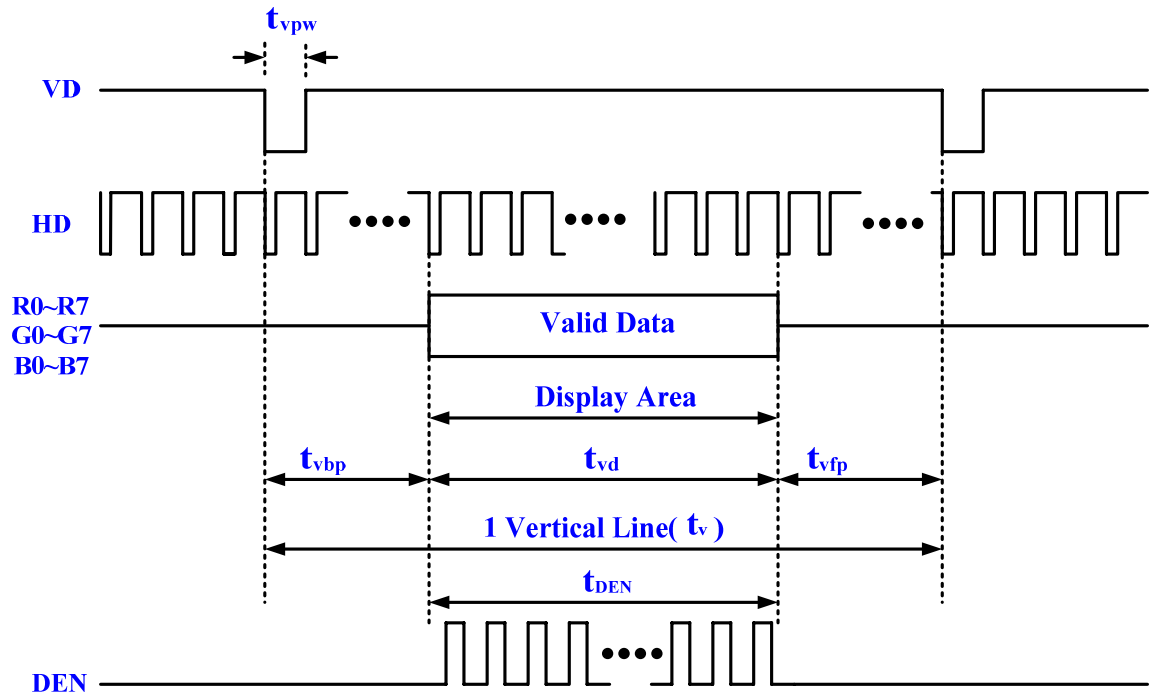

Figure 3.4 LCD vertical timing specification
The timing of the vertical synchronization (VD) is the same as shown in Figure 3.4, except that a vsync pulse signifies the end of one frame and the start of the next, and the data refers to the set of rows in the frame (horizontal timing). Table 3.2 and 3.3 show for different resolutions, the durations of time periods t_{hpw} , t_{hbp} , t_{hd} , and t_{hfp} for both horizontal and vertical timing. Finally, the